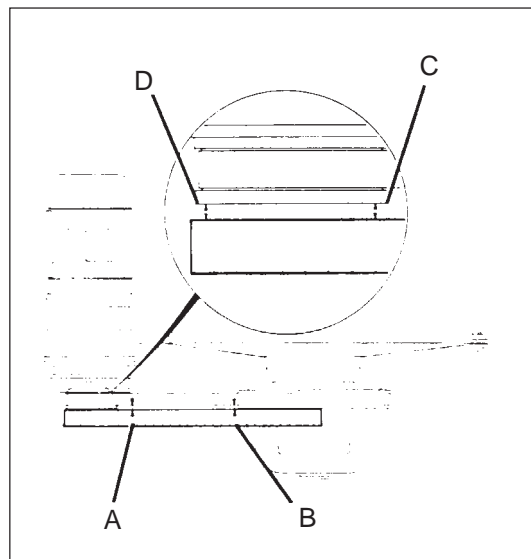
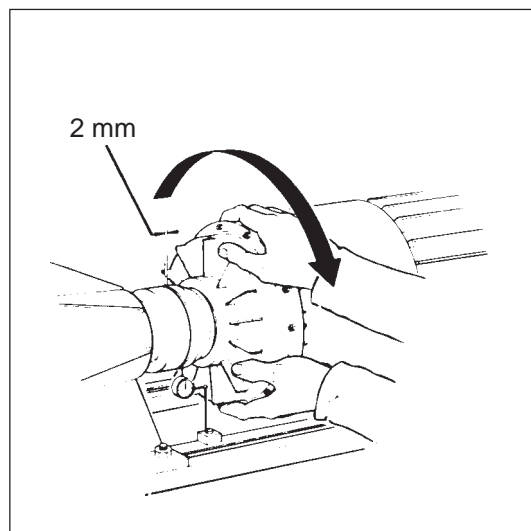

Figure 11. Alignment of gear housing
Figure 12. Alignment of extract motor
- measure distance A (Figure 11) between the straightedge and the belt at the drum's belt pulley
- adjust the gear housing location so that distance B (Figure 11) between the straightedge and the belt at the outgoing belt pulley of the gear housing is equal to distance A
- measure distance C (Figure 11) between the upper edge of the gear housing outgoing belt pulley and the straightedge
- adjust the position of the gear housing so that distance D (Figure 11) between the straightedge and the bottom edge of the gear housing outgoing belt pulley is equal to distance C.
22. Check the alignment of the wash motor according to item 9 of "Replacement of wash motor" in this section, and adjust if necessary.
25. Set up a measuring gage against the rubber-lined coupling (Figure 12).